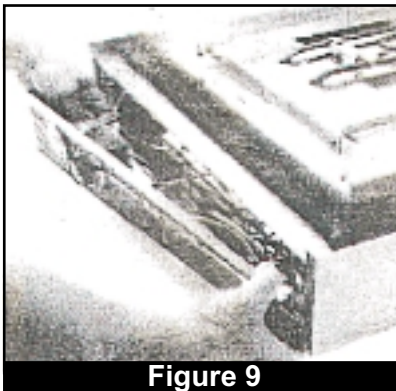

Figure 9
2. Gently lift off the front panel while guiding attached wires and thermometer probe to prevent damage. (Fig. 9)